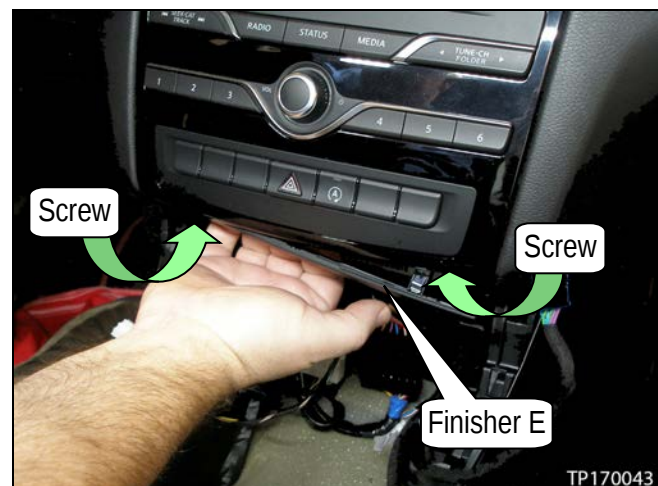

Figure 12
3. Remove instrument finisher E, and then remove the hidden screws (see Figure 12, and next page, Figure 13).